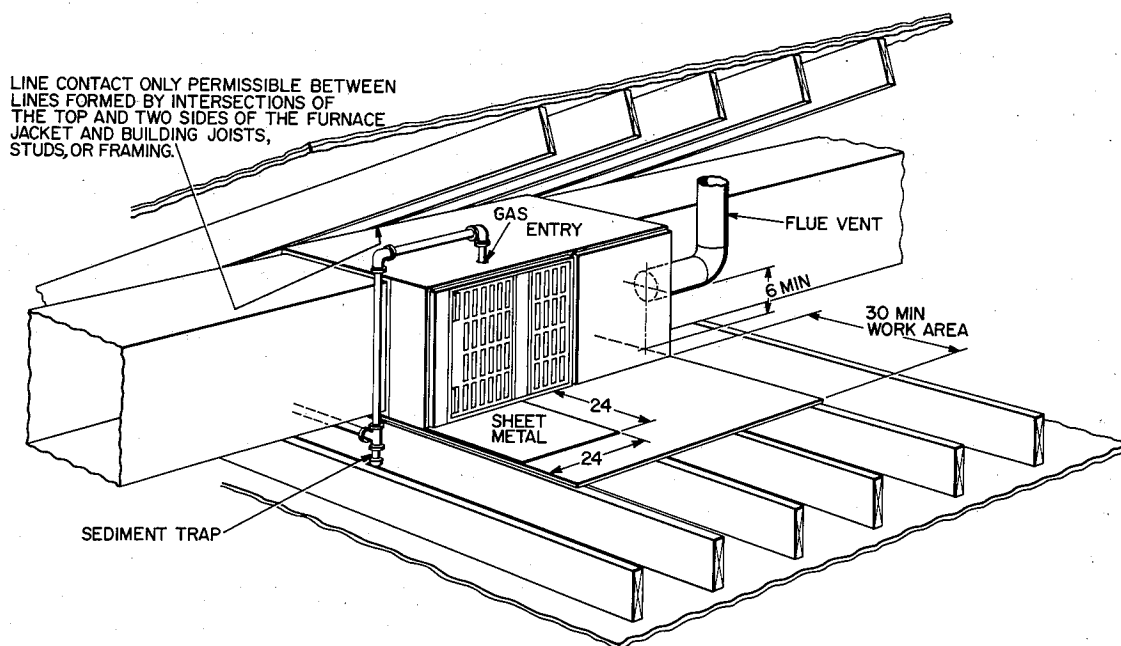

Fig. 7 —Typical Attic Installation
2. Connect gas supply pipe; see Fig. 7 for typical piping entry.
4. Install 24- x 24-in. sheet metal shield on platform in front of louvered control panel as shown in Fig. 7.